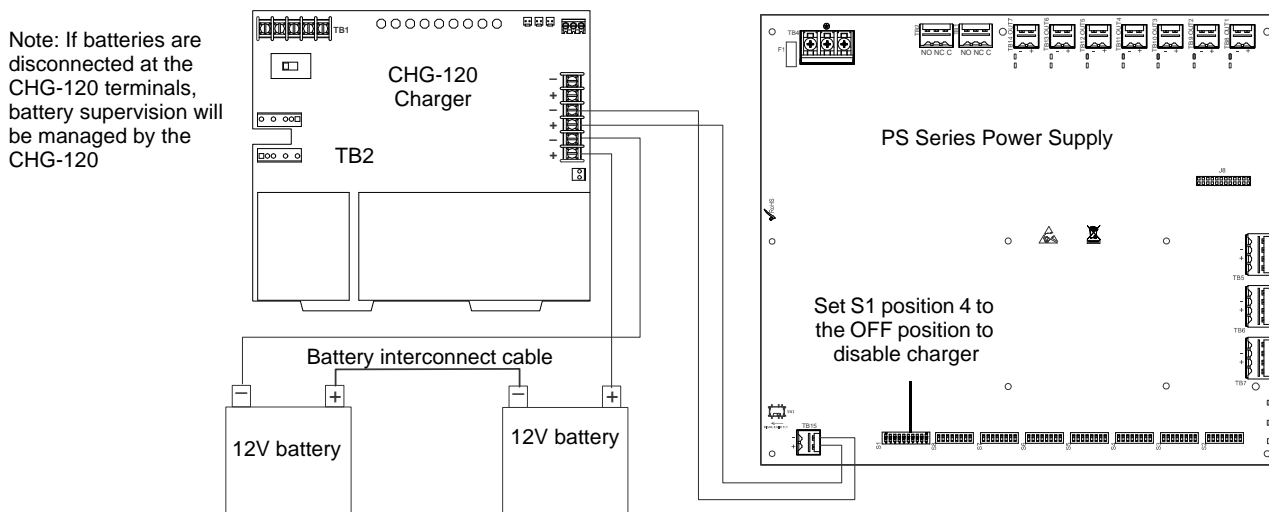

Figure 2.9 Connecting the Power Supply to a CHG-120 Charger
- Connect the battery cables between TB15 (+ and -) on the PSE and the CHG-120 charger output circuit (TB2: Out 1+ and Out 1-) as shown in Figure 2.9. Be certain to observe polarity.